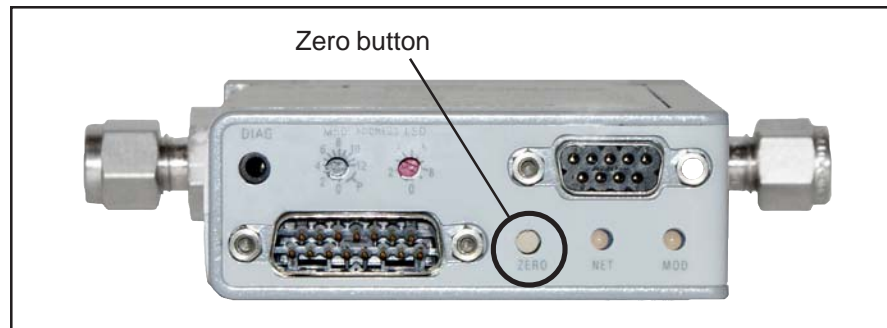

Figure 2-2 Zero Button Accessible at Top of Device
- Press and hold down the Zero button, shown in Figure 2-2, for a minimum of 5 seconds.